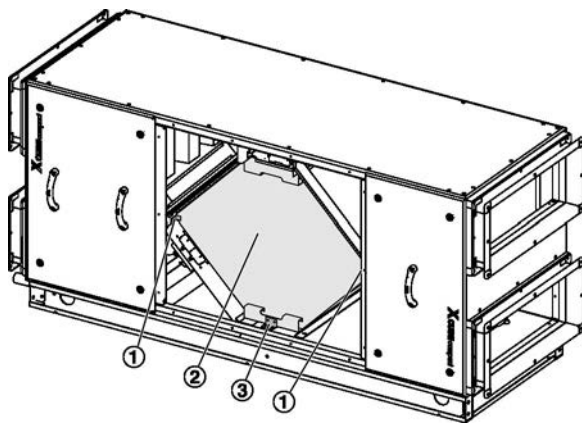

Fig. 56: Removing the brackets
3. ▶ Remove the two brackets at the sides (Fig. 56/1) of the plate heat exchanger and the one at the bottom (Fig. 56/1).